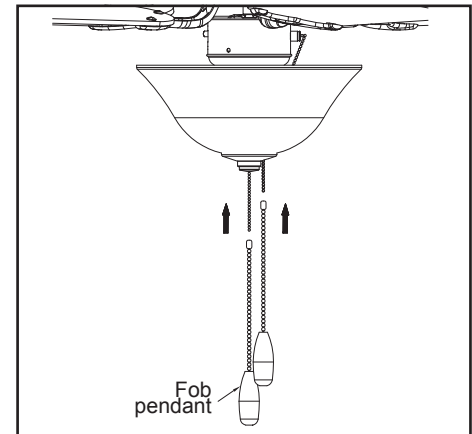

Figure 16
8. Install the pull chain extension chains and fobs (Figure 16).